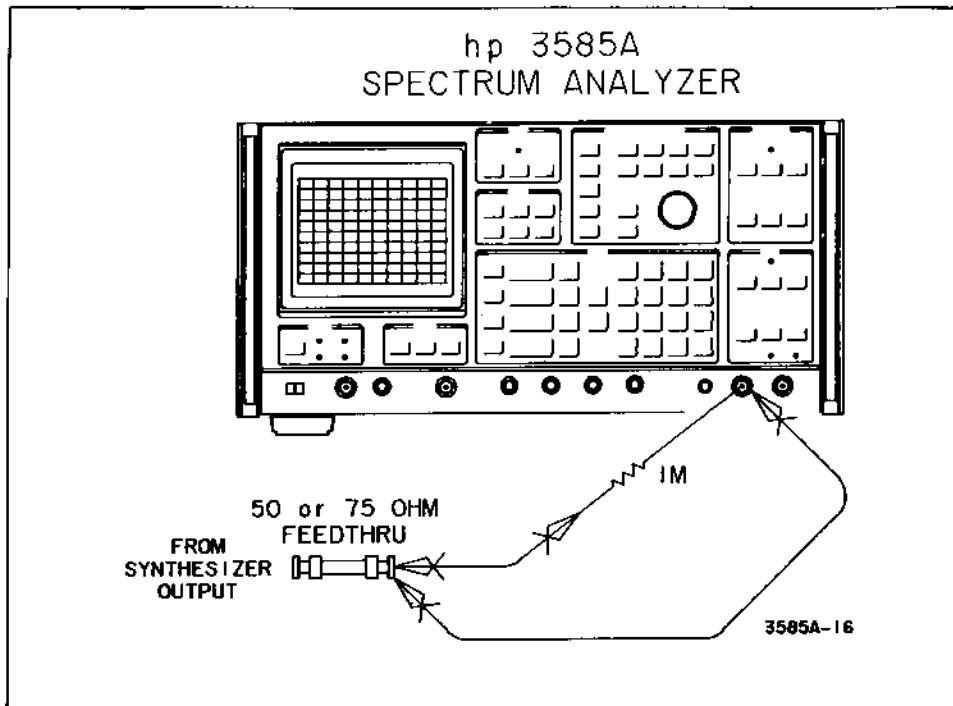

Figure 4-9. 1 M Ohm Input Impedance Test
e. Using short clip leads, insert the 1 MΩ resistor between the output of the termination and the 3585A 1 MΩ input as shown in Figure 4-9.